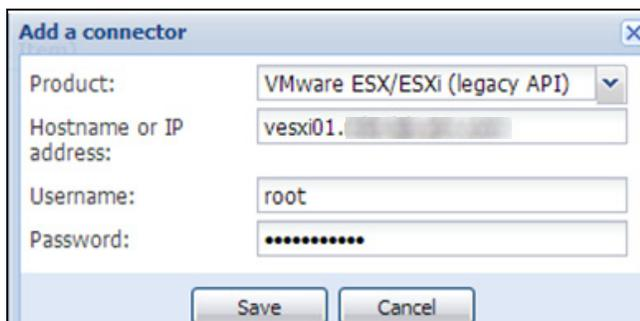

Figure 82. Add VMware ESX/ESXi
- Add identification information for the selected connector (see Figure 82)
2. Add identification information for the selected connector (see Figure 82):